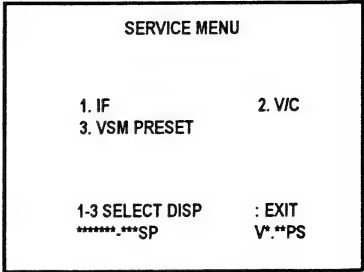

Fig. 1
2) The SERVICE MENU screen of Fig. 1 will be displayed.